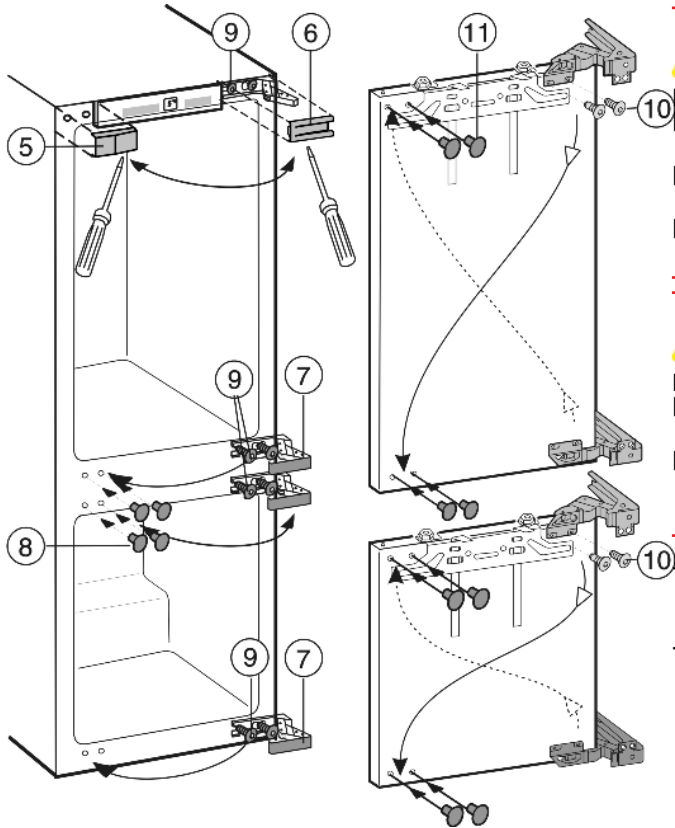

Fig. 4
- ▶ Lift off the covers Fig. 4 (5,6,7,8) forwards using a flat-blade screwdriver.
- ▶ Loosen the top and bottom screws Fig. 4 (9) on the appliance body, without removing them.
- ▶ Transfer the screws Fig. 4 (9) to the opposite side and screw them in a little.
- ▶ Undo the screws Fig. 4 (10) and change over the hinges diagonally.
The screws Fig. 4 (10) are self-tapping: use a cordless screwdriver.
- ▶ Place plugs Fig. 4 (11) in the now unused fastening holes.
- ▶ Attach the doors to the prefitted screws Fig. 4 (9) and tighten the screws.